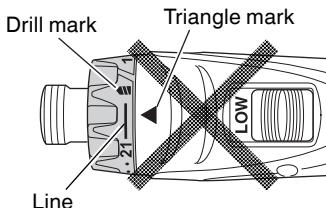

Fig. 9
- Do not use with the clutch dial set at the line between the number “21” and the drill mark “◀▶”. Doing so may cause damage (See Fig. 9).